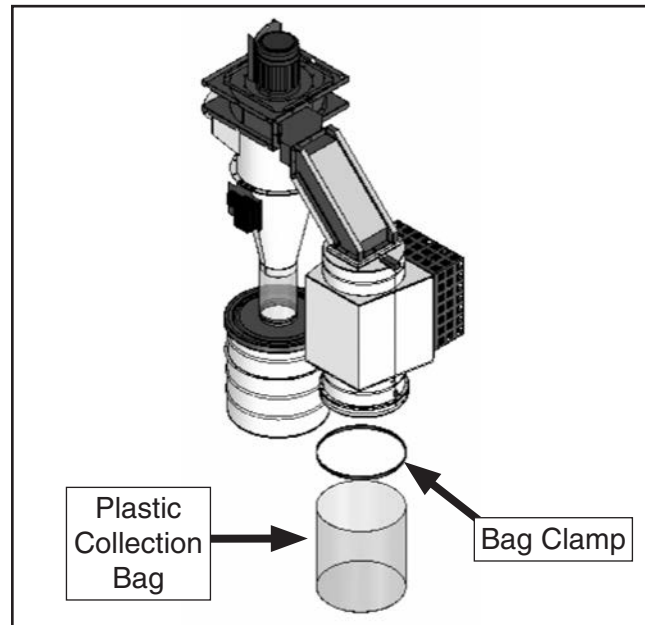

Figure 25. Installing collection bag under HEPA filter assembly.
7. Slip plastic collection bag around opening under canister filter, and secure with metal bag clamp (see **Figure 25**).